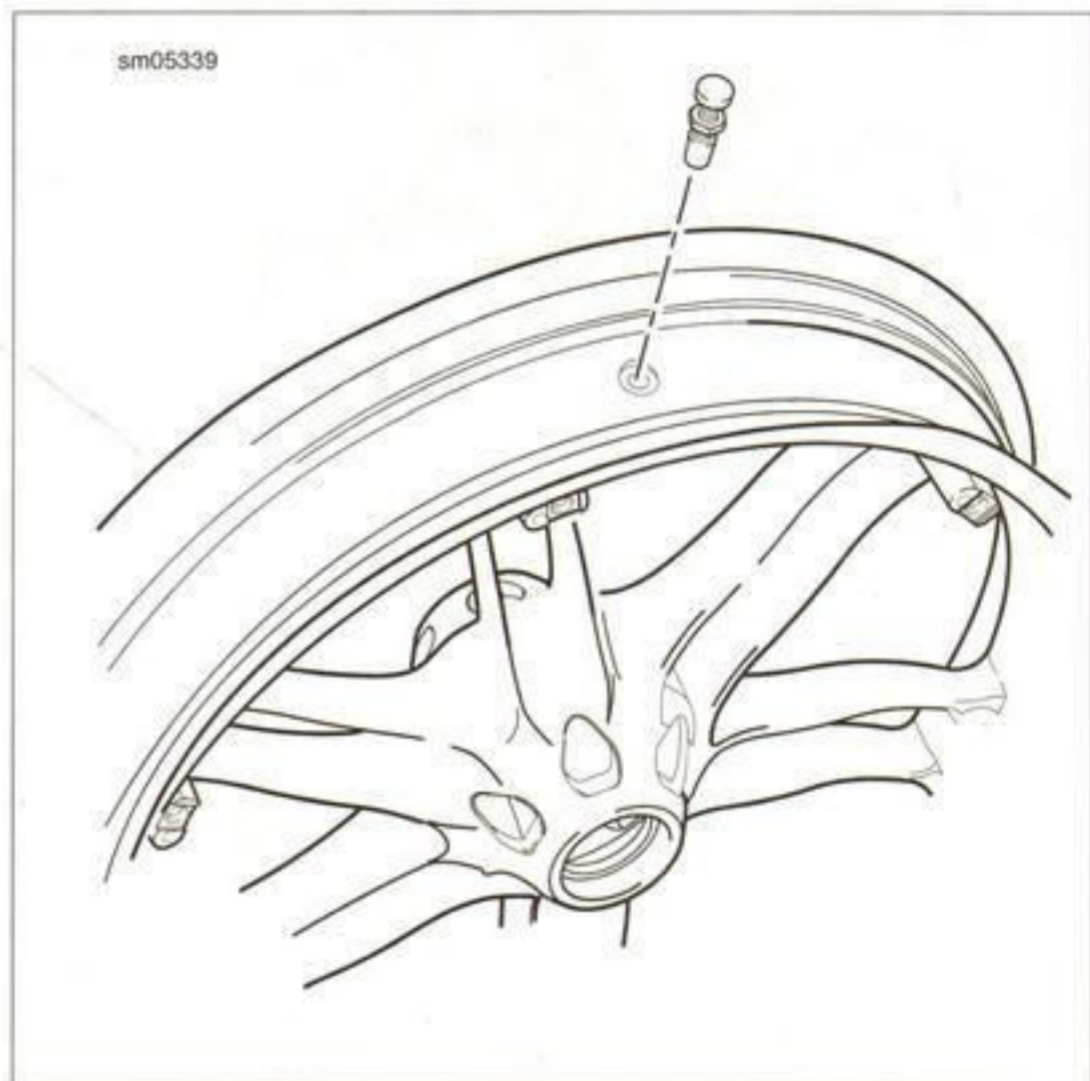

Figure 2-12. Valve Stem
3. See Figure 2-12. Install a **new** valve stem and tighten the nut to 4.5-4.9 Nm (40-44 in-lbs).